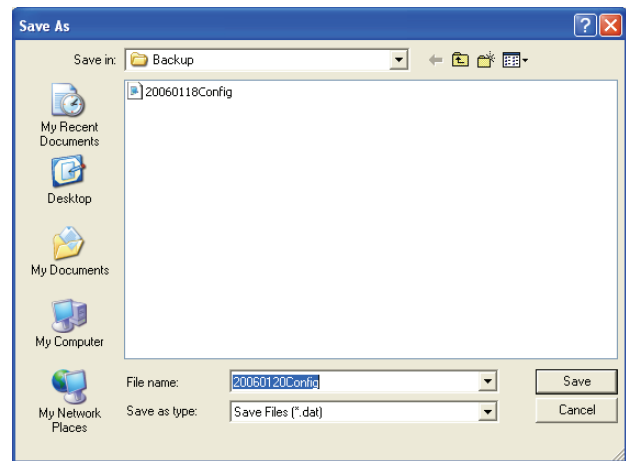

figure 8.19: “Save schedule as” window
- If you click Yes, a standard Save As window will appear (see figure 8.19). Select the area where you want to save the configuration file, and then click Save.